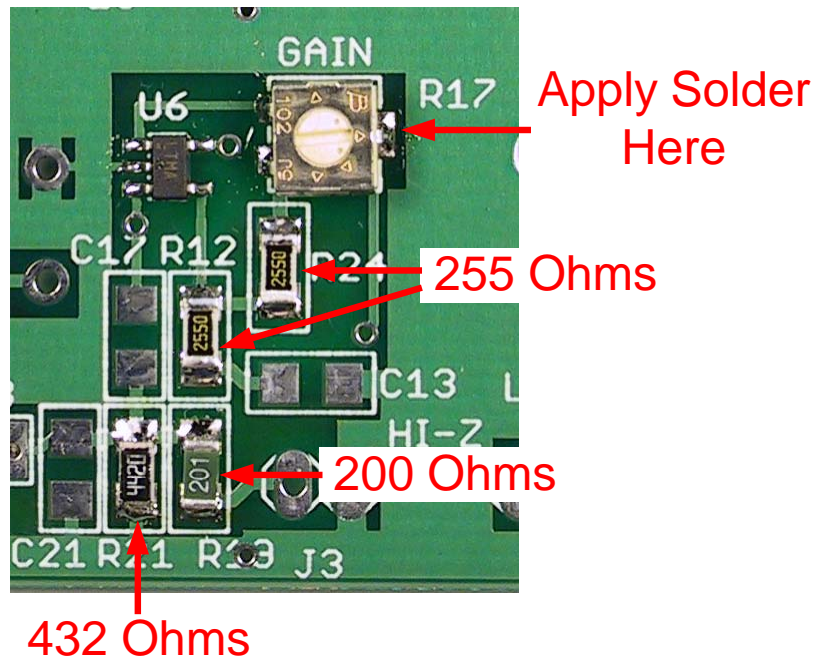
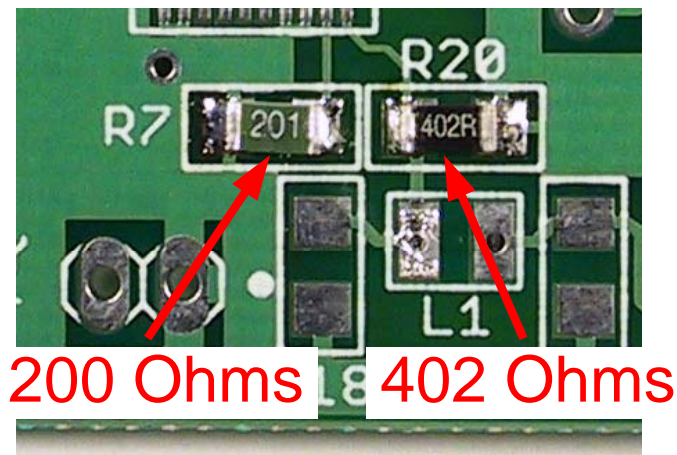

Figure 14. R12, R19, R17, R21, R24 Locations
Figure 15. R7, R20 Locations
- ☐ Remove the strip of 255 Ohm resistors from Bag 2. These are marked either 2550 or 255R. Refer to **Figure 14**. Install them at:
- ☐ Remove R21, 432 Ohm resistor, from Bag 2. It is marked either 4320 or 432R. Refer to **Figure 14**. Install it at R21.
- ☐ Remove R17, 1K pot, from Bag 2. Refer to **Figure 14**. Apply some solder to the pad closet to the **R17** silkscreened legend. Grasp the part in your tweezers, heat the pad and slide the pot onto it. Align it with the silkscreened outline. The remaining two pads should be lined up with the pot leads. Use solder sparingly and solder the remaining leads.
- ☐ Remove the strip of 200 Ohm resistors from Bag 2. These are marked either 201 or 200R. Refer to **Figure 14** for the location of R19 and **Figure 15** for the location of R7. Install these resistors at:
- ☐ Remove R20, 402 Ohm resistor, from Bag 2. It is marked 402R. Refer to **Figure 15**. Install it at R20.